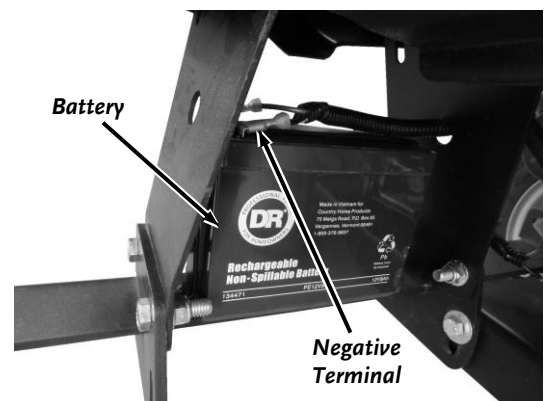

Figure 11
1. Connect the Black Negative Terminal onto the negative Battery Lug (**Figure 11**).